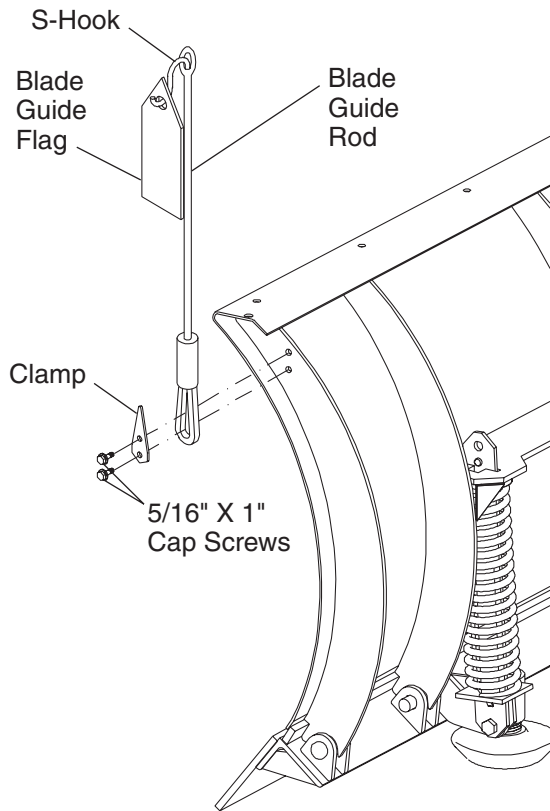

Figure 11
2. Attach a blade guide rod to each outer rib using 5/16" x 1" cap screws and locknuts. (See Figure 11.)